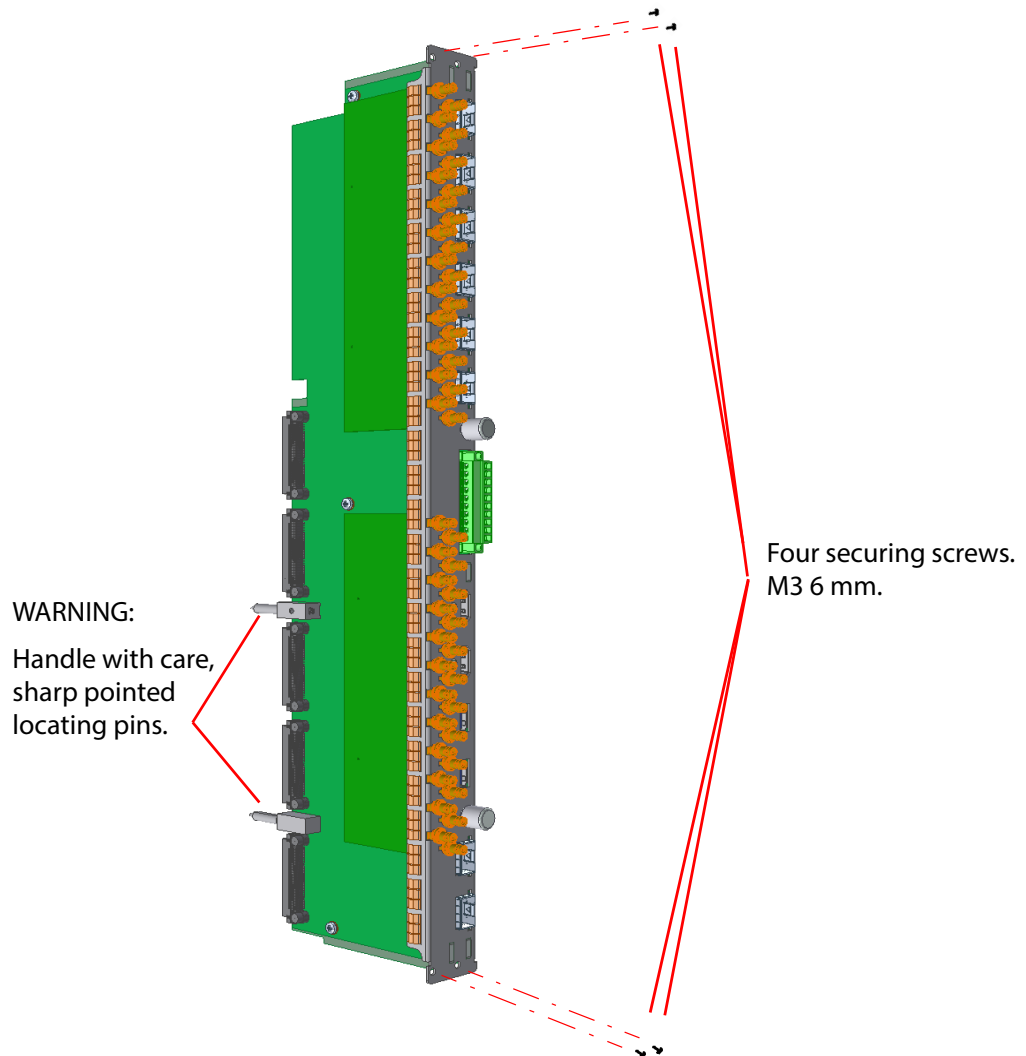

Fig. 3-8: MV-830 Multiviewer-RP Rear Panel module
Check the orientation of the rear module, see Figure 3-8.
- 4 Fasten the MV-830 Multiviewer rear panel module in position with four securing screws, see Figure 3-8.